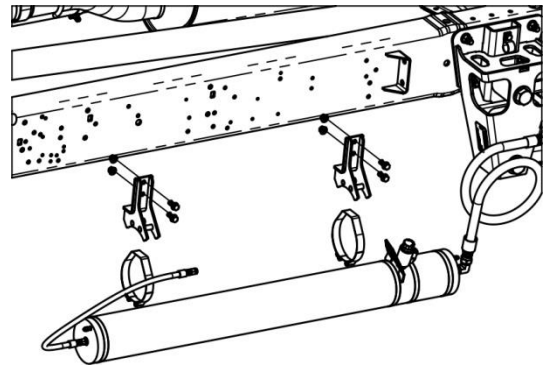

Figure 27. Secondary Volume Assembly mounting location.
7. Raise the volume assembly until the volume contacts both mounts. Rotate the volume assembly until the bleed screws are located to the top and as vertical as possible. Ensure clearance to emergency brake cable past the guard. See Figure 27.
8. Locate (2) T-Bolt Clamps, open the mounts, and place them in the mounts, on top of the two pegs.